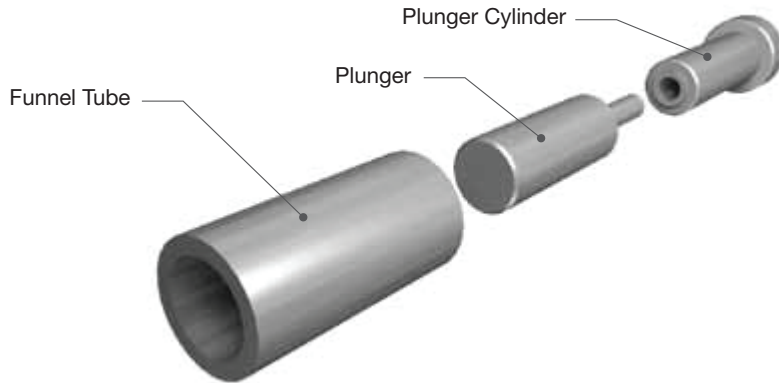

Figure 41: Pilot Valve Tester
The pilot valve test indicator is available for the modulating and pop action pilot valves. The valve test indicator measures the set pressure of the pilot, while maintaining pressure on the main valve dome area; thereby, allowing only the pilot to actuate. The system shown in Figure 41 is available for remote or local testing.
G. Pilot Valve Tester (Figure 41)